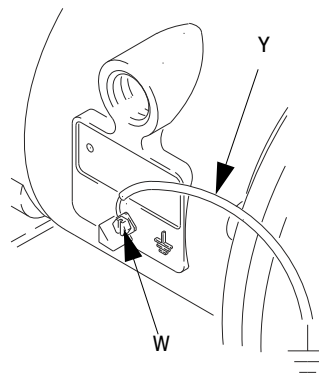

FIG. 1
- *Pump:* Connect a ground wire and clamp as shown in Fig. 1. Loosen the grounding screw (W). Insert one end of a 12 ga (1.5 mm²) minimum ground wire (Y) behind the grounding screw and tighten the screw securely. Connect the clamp end of the ground wire to a true earth ground. Order Part No. 238909 Ground Wire and Clamp.